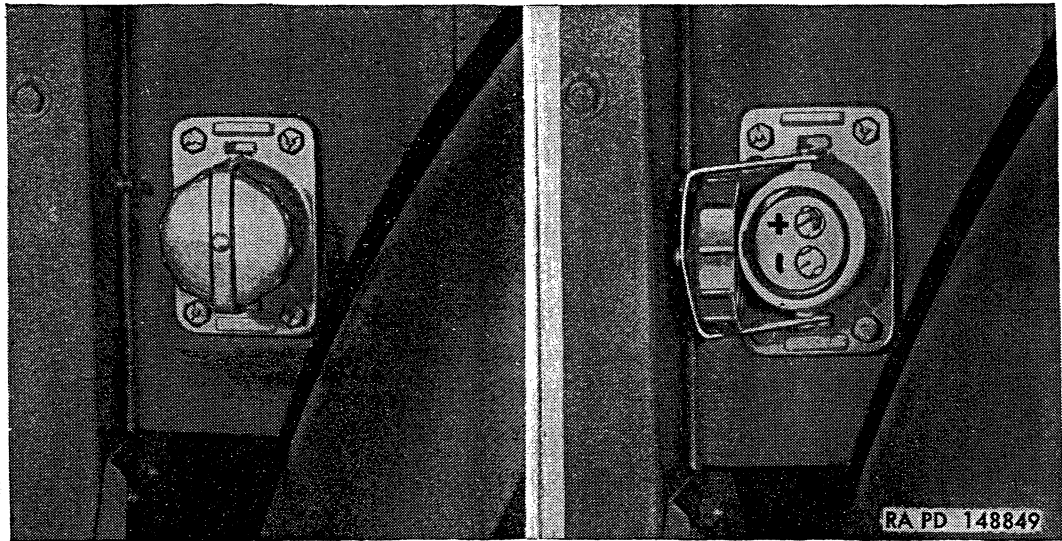

Figure 157. Slave battery receptacle with cover closed and open (used only on early M135).
*c. Slave Battery Receptacle (Some Vehicles)* (fig. 157). Slave battery receptacle, used on some vehicles, is installed at right side of cab at rear of fender. Receptacle is connected in parallel with the batteries. Receptacle is used to charge the batteries from an external source, or to connect a slave battery to assist in starting engine. Receptacle also provides a convenient source of battery current for operating external electrical accessories.
- (1) Remove right fender (par. 304b).
- (2) Disconnect slave receptacle positive (+) cable No. 49 from right battery positive (+) terminal. Disconnect slave receptacle negative (-) cable No. 50 from ground at dash behind generator-regulator.
- (3) Remove nut and bolt attaching two cable clips to floor sill. Remove clip from each cable.
- (4) Remove four nuts and bolts attaching slave battery receptacle (fig. 157) to side of cab. Withdraw receptacle and cable from hole in cab.